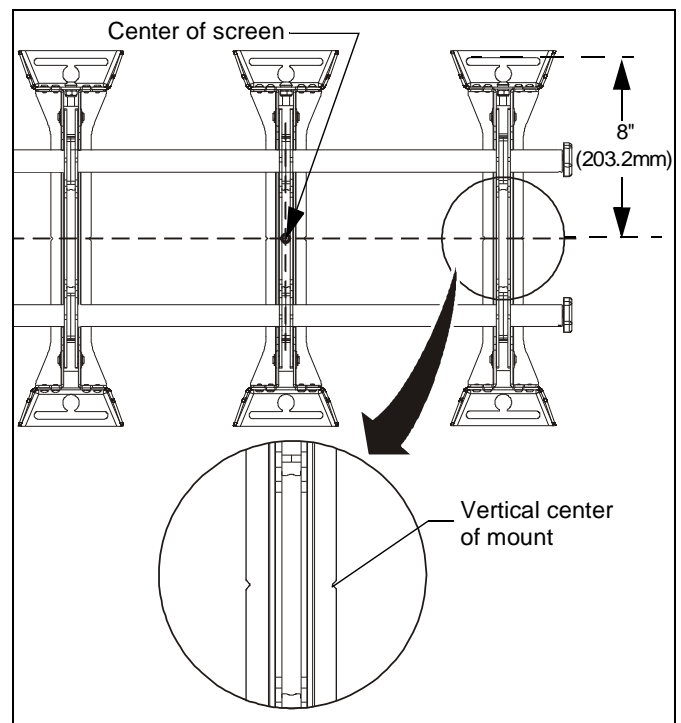

Figure 4
3. Line up the notches on mount with center of screen marking to determine vertical center. (See Figure 4)